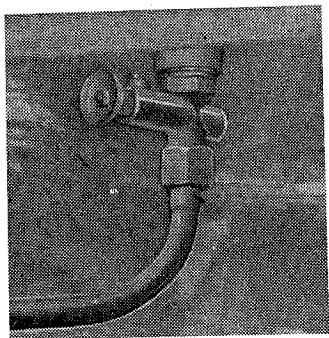
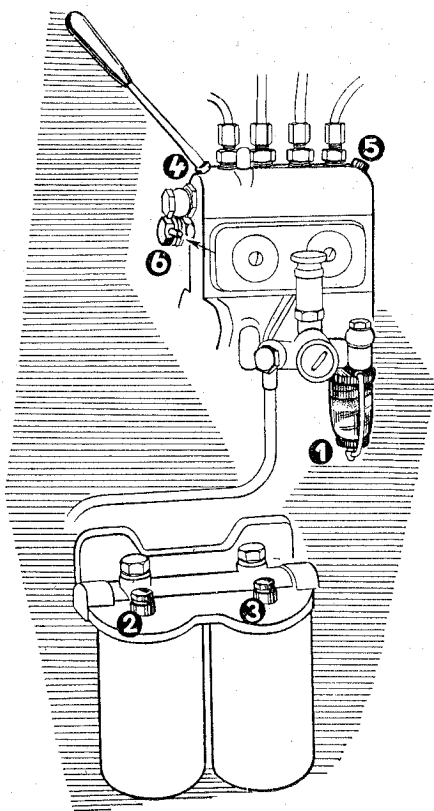

Fig. 1
Fig. 3
- (1) Open the fuel cock (Fig. 1) and loosen the stirrup of the precleaner bowl (Fig. 3/1) so that the bowl is filled with fuel without air bubbles. Attach the bowl by tightening the stirrup.
- (2) Loosen the bleeding screws of the fuel filters (Fig. 3/2, 3) and pump manually until Diesel oil flows out without bubbles from both of them. Tighten the screw of the coarse filter (Fig. 3/2) and proceed with pumping for another moment. Then tighten also the screw (Fig. 3/3) of the second filter.
- (3) Loosen the bleeding screws of the fuel injection pump (Fig. 3/4, 5) and pump manually until Diesel oil without air bubbles escapes around these screws. Without interrupting the pumping, tighten the screw 4 and then the screw 5.
The correction starter considerably facilitates the starting of the engine; it is put into operation by depressing the push button (Fig. 3/6), and is switched off automatically by the least movement of the fuel delivery governor lever (before depressing the push button it is necessary to set up the fuel delivery lever to the maximum delivery).